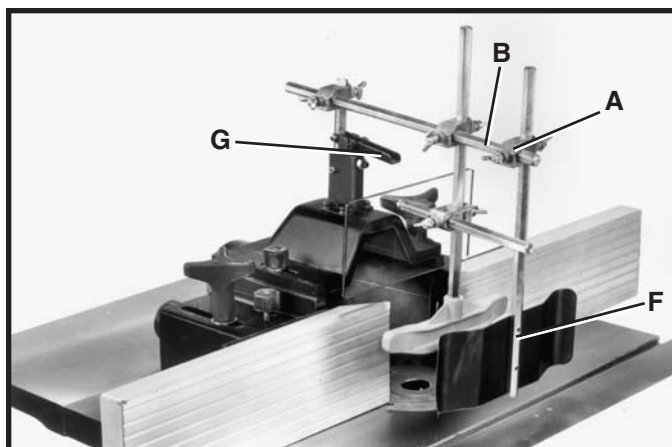
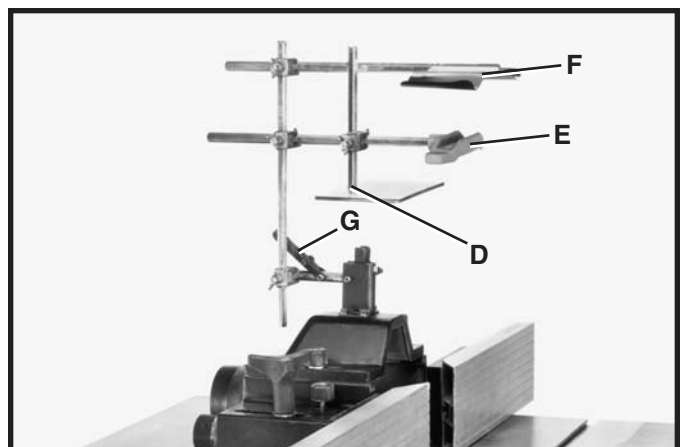

Fig. 27
Fig. 28
4. Assemble guard bracket (A) Fig. 27, and spring clamp (F) to hex rod (B) as shown, then tighten all wing nuts.
5. The spring guard (F), holddown (E) and clear plastic guard (D) can be flipped up out of the way as shown in Fig. 28, by lifting up on locking lever (G), when not in use or when making adjustments. **CAUTION: When the guard assembly is in the down position as shown in Fig. 27, make certain locking lever (G) is in the locked position as shown.**